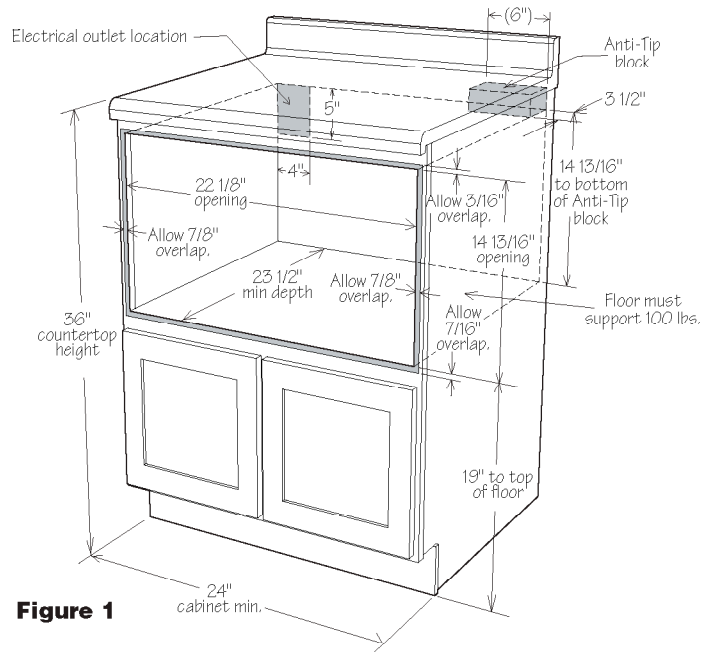
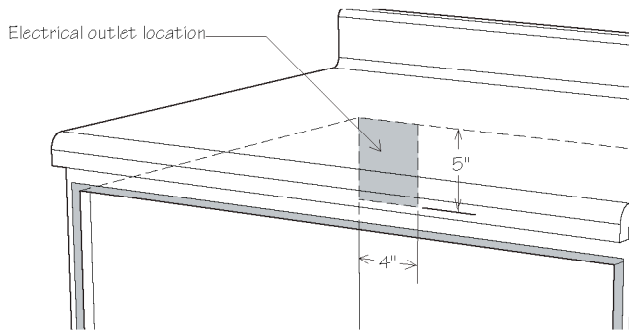

Figure 1
Figure 7
For SAFETY CONSIDERATIONS do not install drawer in any combustible cabinetry, which is not in accord with the stated clearances and dimensions on pages 2 and 3. See Figure 1 (for 24") or Figures 3 and 4 (for 30") .
- Dimensions that are shown in Figure 1 (for 24") or Figures 3 and 4 (for 30") must be used. Given dimensions provide minimum clearance. Locate electrical outlet in the shaded area in the upper left-hand corner of the cutout. See Figure 7.
Figures 1 and 2 contain many Microwave Drawer measurements for reference when planning the drawer's location.
To reduce the risk of tipping of the drawer, the Anti-Tip block must be properly installed located 14 3/4-inches above the floor on which the Microwave Drawer will sit. The 6-inch Anti-Tip block must be provided by the installer. See Figures 1 and 6 (for 24") or Figures 3, 4 and 6 (for 30"). The Anti-Tip block prevents serious injury that might result from spilled hot liquids.